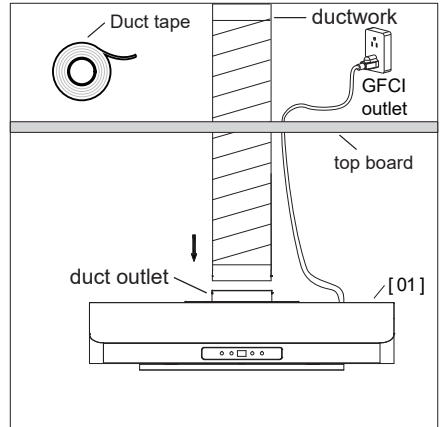

Fig 3
1. Hold **Range Hood [01]** on the wall and close to the **top board**. (Fig 3)
2. Pull the ductwork through the **top board**. Secure your ducting connection to the **duct outlet** using **Duct tape** to hold it in place. Try to minimize the use of elbows. More elbows and longer runs will reduce the air suction. Use **Duct tape** to make all joints secure and air tight. (Fig 3)